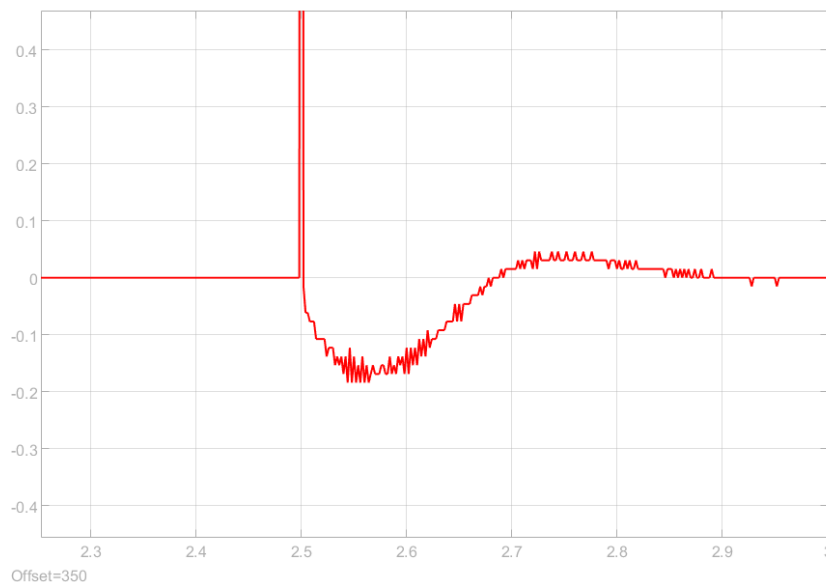

Figure 5: Derivative Branch scope output.
- (a) Click to the **Derivative Branch Scope** and zoom into the measurements. What did you observe in the measurements? After zooming in, you should have a similar graph as provided in Fig 5.